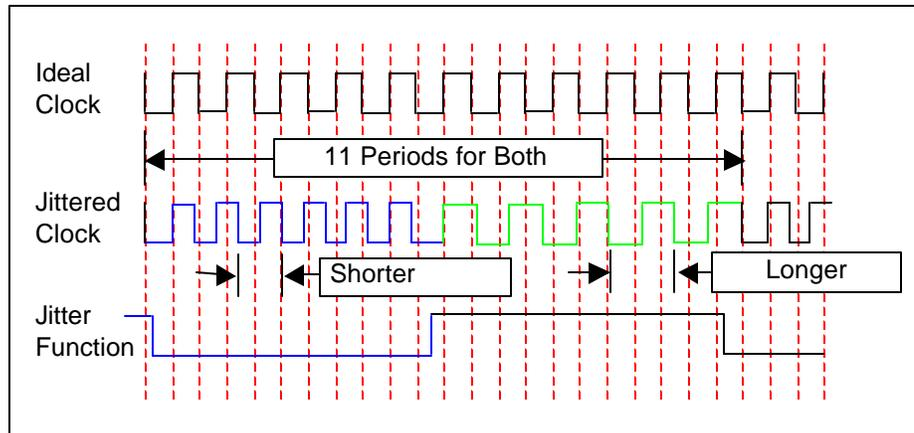

Figure 10. Jitter Modulation effect.
Figure 10 shows the effect of jitter modulation on a synchronous system. There are 3 signals shown in this diagram. The first signal is an ideal clock that has no jitter. The second signal is a clock that is being modulated the third signal which is the jitter modulation function. When the modulation signal is high, it is adding to the period length of the victim clock. When the modulation signal is low, it is subtracting from the period length of the victim clock. Notice that if you measure across 11 periods (the period of the modulation) you get the same measurement for both the ideal clock and the jittered clocks. This is an example of Periodic Jitter (PJ).